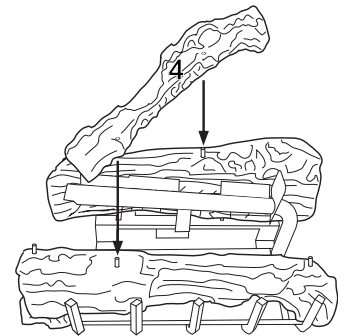

Figure 47 - Installing Log No. 4
4. Place log #4 (crossover log) onto pins from both logs #2 and #3 as shown in Figure 47.